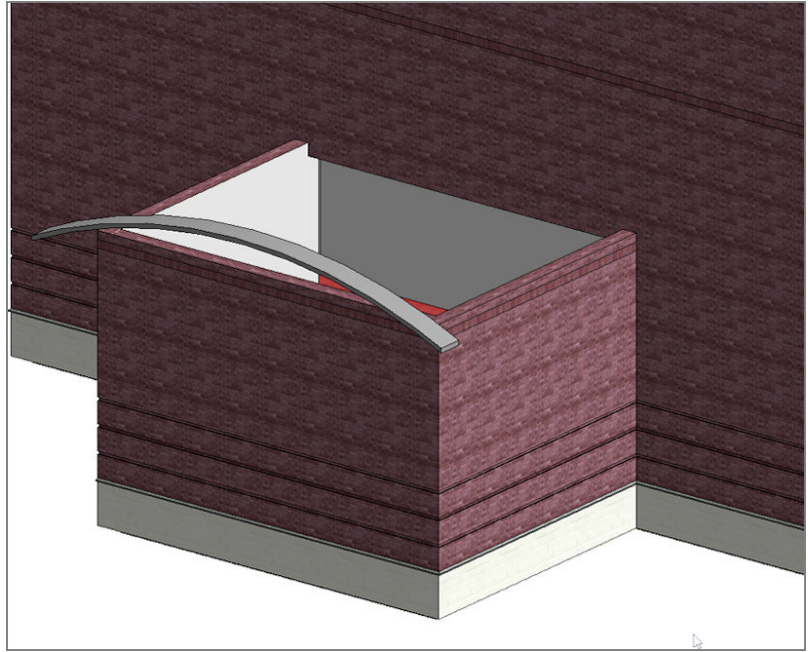

FIGURE 7.55: The almost completed canopy roof
- 5. Go to a 3D view. Your roof should look like Figure 7.55.